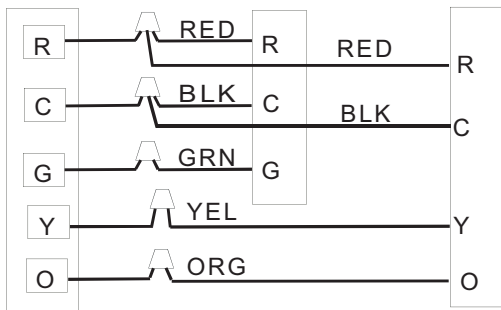

Fig. 3 - Wiring Layout Heat Pump Unit (Cooling and 1-Stage Heat)
5. Connect per Fig. 3 when electric heat is NOT used with a heat pump.